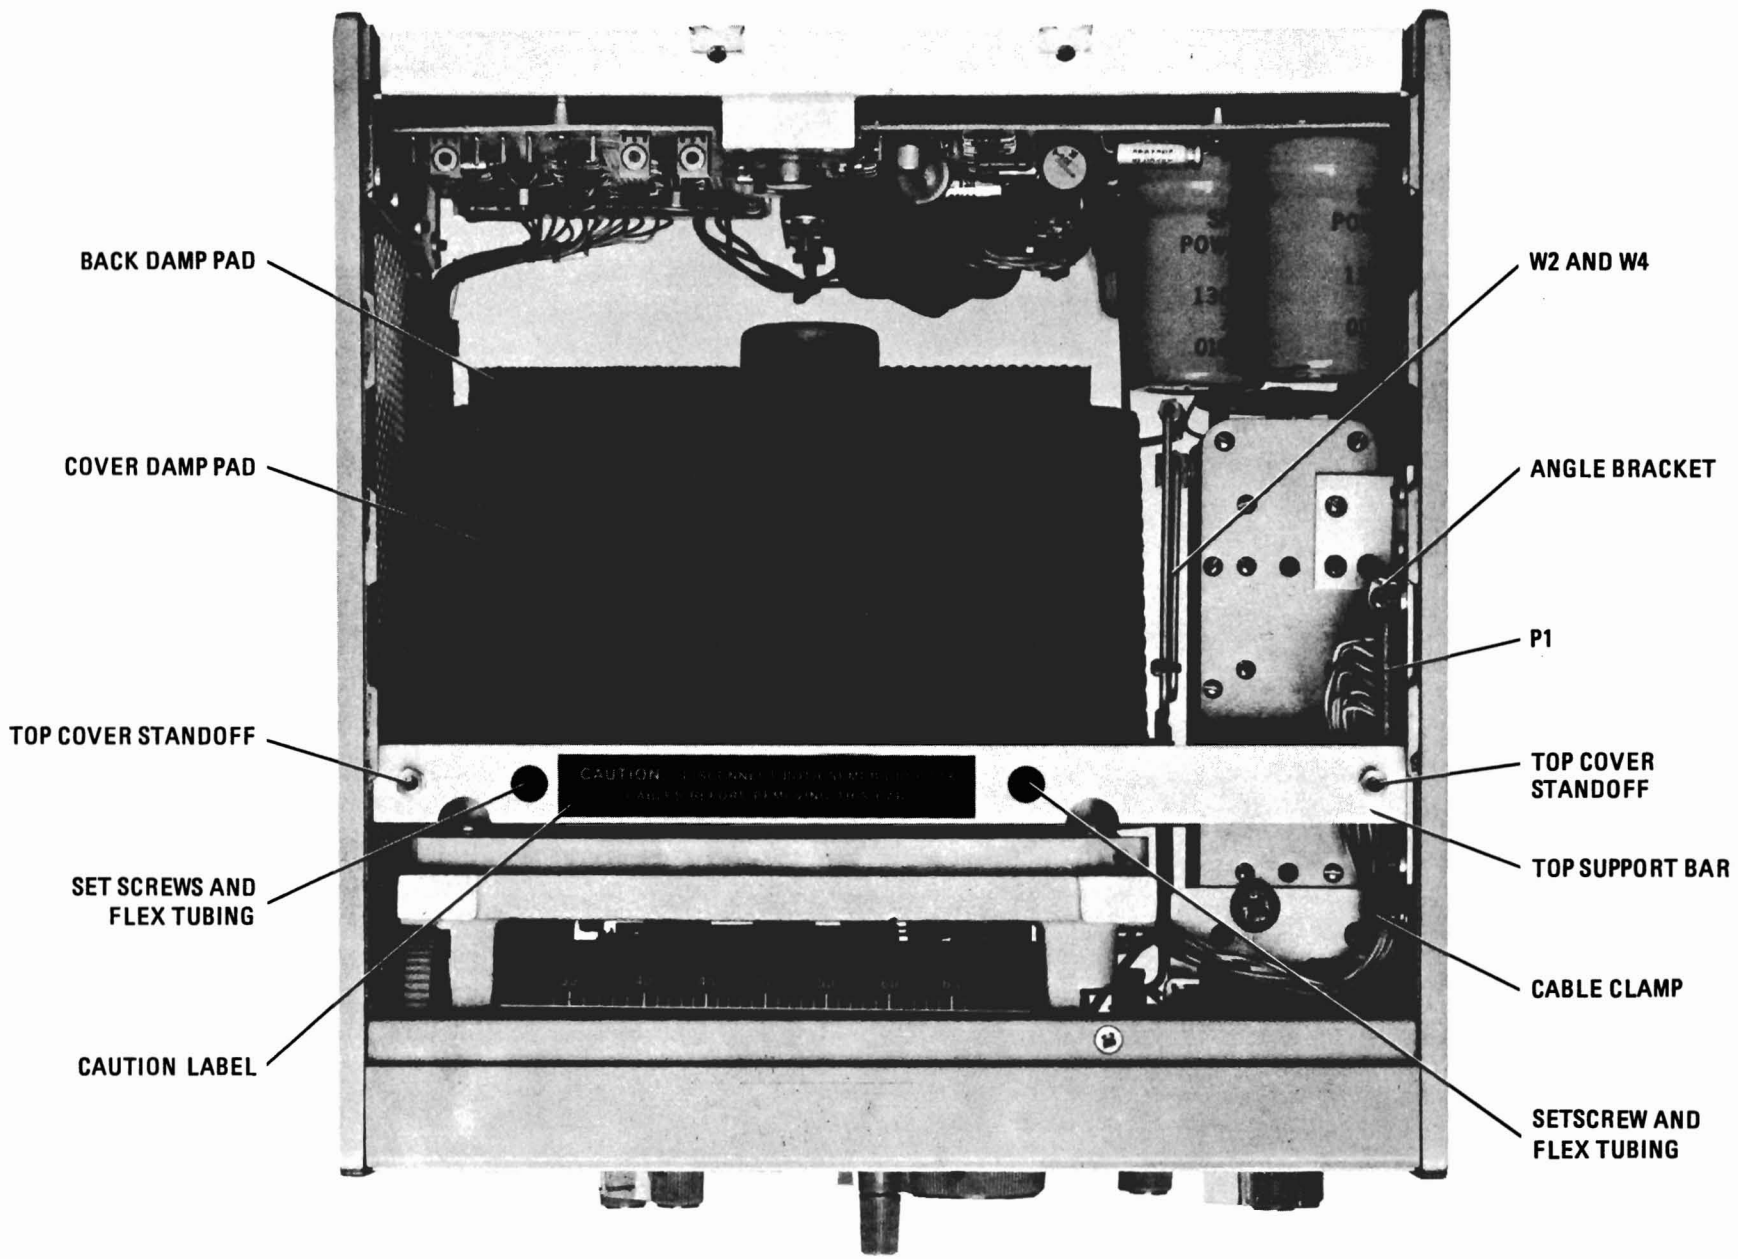

Figure 1. Top View with Kit Installed
2. Peel backing from caution label (HP 7120-4628) and stick label to top support bar (HP 08654-20069) as in Figure 1.
3. Apply a drop of Loctite to threads of two standoffs (HP 08654-20080) and screw into top support bar as in Figure 1. Note that they go on the side opposite the two counter-bored holes. Tighten standoffs slightly with a wrench but do not overtighten. Let dry overnight.
4. Disconnect two semi-rigid coax cables (W4 and W2) that lead to RF assembly. See Figure 1.
4. Install top support bar onto top of sideframes with four 6-32 x 0.375" flat-head screws. See Figure 1. All four damp pads and setscrews (with tubing) must fit into the proper support bar holes. If top support bar is difficult to fit into place, loosen upper screws in one of sideframes and try again.